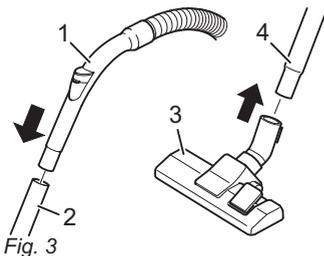
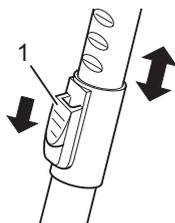

Fig. 3
Fig. 4
2. Push the handle (Fig. 3/1) into the upper end of the telescopic tube (Fig. 3/2).
3. Push the floor nozzle (Fig. 3/3) onto the lower end of the telescopic tube (Fig. 3/4).
4. Adjust the length of the telescopic tube. To do this, press the telescopic tube lock (Fig. 4/1) down. Then pull the telescopic tube by the handle (Fig. 3/1) to the desired length. To lock it, release the telescopic tube lock when you let go. You will hear an audible click.